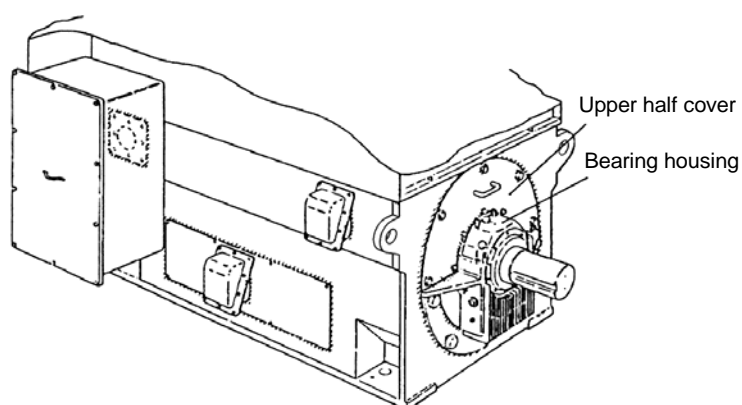

Fig. 13 Sealant coating area
- (1) Reassemble the bearing housing upper half by the reversing procedure as shown in 6.2.2.
- (2) Install the dial thermometer, thermocouple or other bearing thermometer.
- (3) With a forced lubrication type bearing, reassemble the oil inlet and outlet piping. Fill lubricant up to the level indicated on the oil level gauge.
- (4) With an outdoor type motor, coat sealant as shown in Fig. 13.
With an outdoor type motor, be sure to coat sealant on the periphery areas shown in Fig. 13, whenever disassembling.